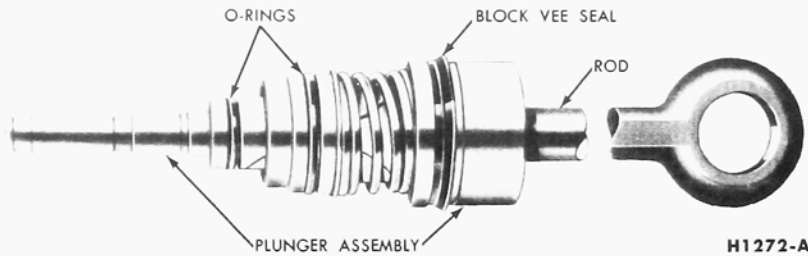

FIG. 31—Valve Operating Rod and Plunger Assembly
14. Remove the O-rings and the "Block Vee" type seal from the valve plunger (Fig. 31).
2. Install the "Block Vee" type seal and the O-rings on the valve plunger assembly (Fig. 31).